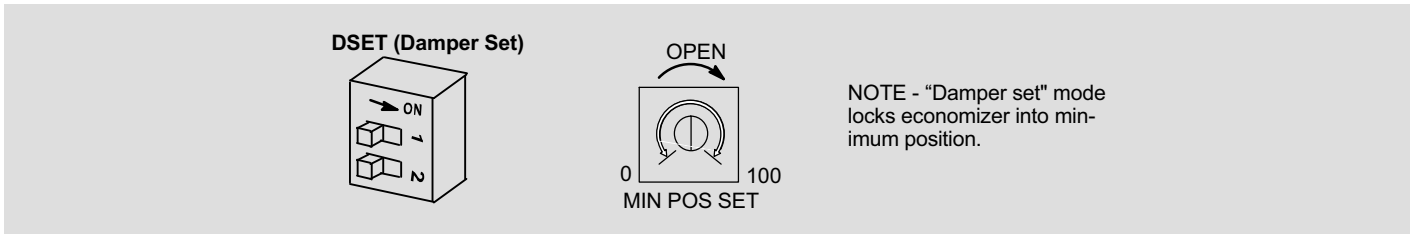

Figure 17. Economizer Manual Damper Set DIP Switch
3. Set economizer DIP switch to "DSET" position as shown in figure 17. DIP switch is located in the economizer section.
4. Adjust the MIN POS SET potentiometer until the air flow hood reads the design minimum outdoor air CFM (see figure 17.)